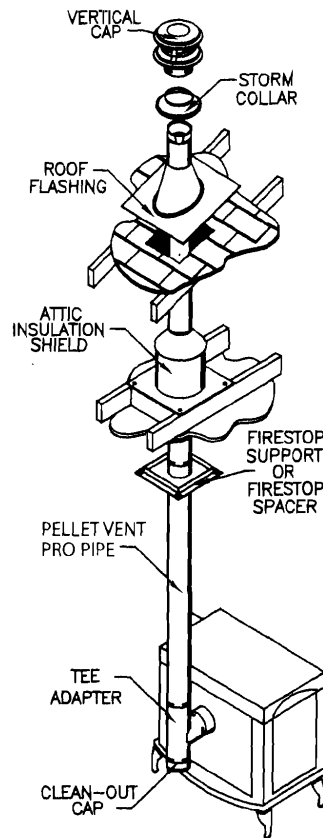

Figure 10
3. If the flue exits on back of stove and an interior installation is desired (Figure 10):